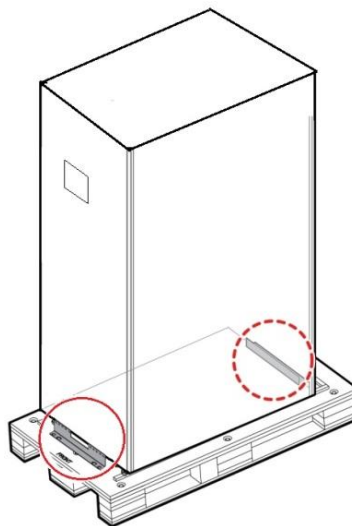

Fig. 3-2 Removal of L-shaped angle support
Step 6: After confirming that the equipment is in good condition, remove the L-shaped angle support fixed by pallet for fixing the case, as shown in Fig. 3-2.